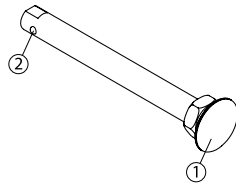

Fig. 6
- To remove the rear wheels, push the button in the center of the wheel's hub (Fig. 6) and pull the wheels off (1).
- Always make sure that the quick release detent balls (2) extend beyond the axle bushing for a secure lock.